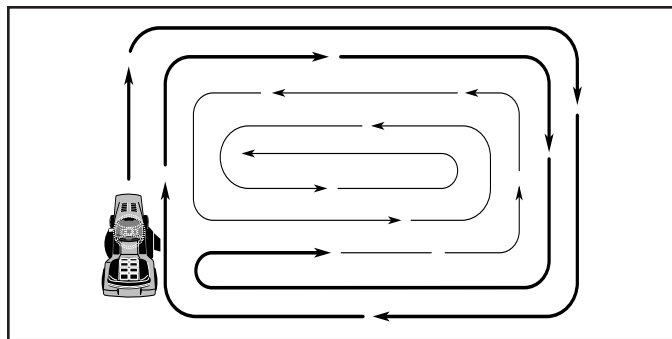

Fig. 15
- When mowing large areas, start by turning to the right so that clippings will discharge away from shrubs, fences, driveways, etc. After one or two rounds, mow in the opposite direction making left hand turns until finished (See Fig. 15).